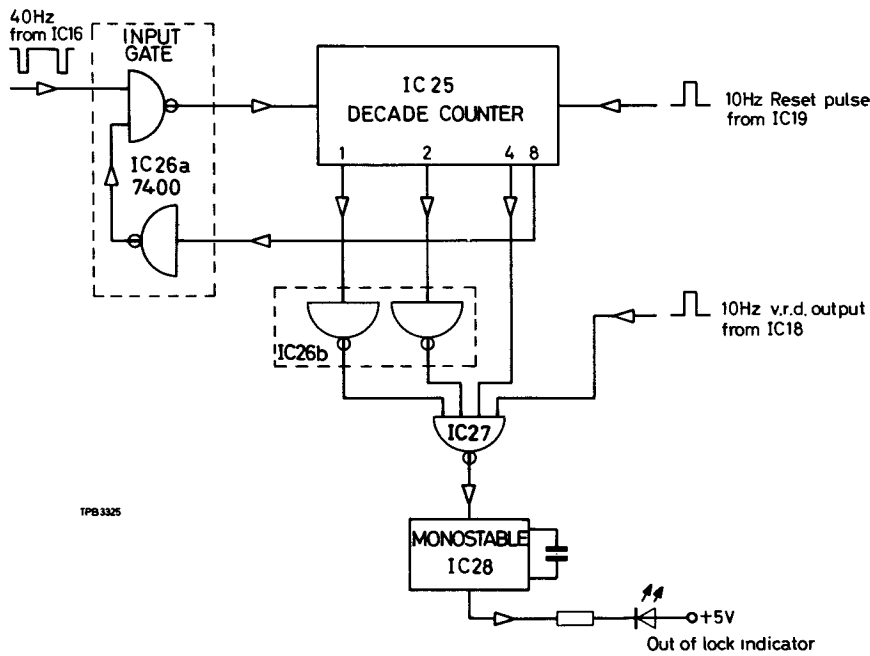

Fig. 6 Out-of-lock indicator circuit
35. It functions as shown in Fig. 6 by taking the 40 Hz ramp pulses from IC16, dividing them by four and then checking for coincidence with a v.r.d. output. If this condition is met a pulse is fed to the monostable IC28, triggers it and the l.e.d. indicator is then unlit. This continuous process results in the monostable being continually retriggered and the lamp remaining extinguished.